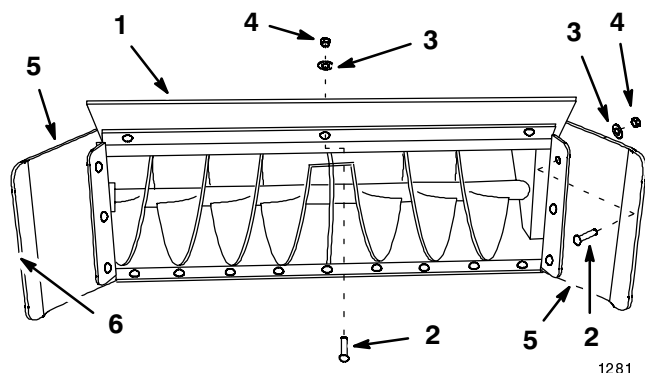

Figure 3
4. Rotate the housing down and position top plate outside top flange of housing. Secure with (3) 3/8 x 1" carriage bolts (heads on inside) (3) 3/8" washers and (3) 3/8" locknuts (Fig. 3).
5. Position side plates outside housing side flanges, with cutting edges parallel to side of housing, and secure with (6) 3/8 x 1" carriage bolts (heads on inside), (6) 3/8" washer and (6) 3/8" locknuts (Fig. 3).